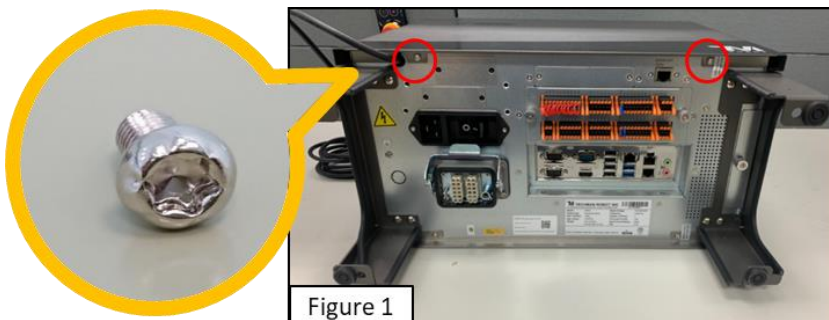
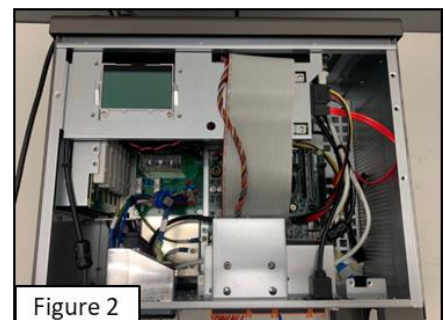

Figure 1
Figure 2
- Put the **Control Box** in a clean working space (laying a blanket in the spread is recommended to avoid scratching the control box) and loosen the two **Torx screws** (as shown in Figure 1).
- Carefully pull the **Front cover** out along the track (as shown in Figure 2).
- Put the **Control Box** in a clean working space and loosen the two **Torx screws** (as shown in Figure 1).
- Carefully pull the **Back cover** out along the track (as shown in Figure 2).
- Refer to Disassemble the **Front cover** and disassemble the **Back cover** for relevant operating instructions (as shown in Figure 1).
- Use the Phillips screwdriver to loosen the screw on the **Left cover** (as shown in Figure 2).
- Use the Phillips screwdriver to loosen the screw on the **Right cover** (as shown in Figure 2).
- Refer to the previous operating steps to disassemble the **Front cover**, the **Back cover**, the **Left cover**, and the **Right cover** of the control box (as shown in Figure 1).
- Use the Phillips screwdriver to loosen the screw on the **Top cover** (as shown in Figure 2 and Figure 3).
- Remove the two cables (as shown in Figure 2).
- Loosen the external SSD rack and remove the rack (as shown in Figure 1 and Figure 2).